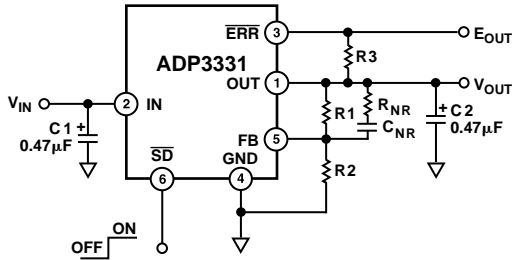

Figure 21. Noise Reduction Circuit
**Noise Reduction Capacitor:** A noise reduction capacitor can be used to reduce the output noise by 6 dB to 10 dB. This capacitor limits the noise gain when connected between the feedback pin (FB) and the output pin (OUT) as shown in Figure 21. Low leakage capacitors in the 10 pF to 500 pF range provide the best performance. Since FB is internally connected to a high impedance node, any connection to this node should be carefully done to avoid noise pickup from external sources. The pad connected to this pin should be as small as possible and long PC board traces are not recommended. When adding a noise reduction capacitor, use the following guidelines:
The ADP3331 has an adjustable output voltage that can be set by an external resistor divider. The output voltage will be divided by R1 and R2, and then fed back to the FB pin. Refer to Figure 21.